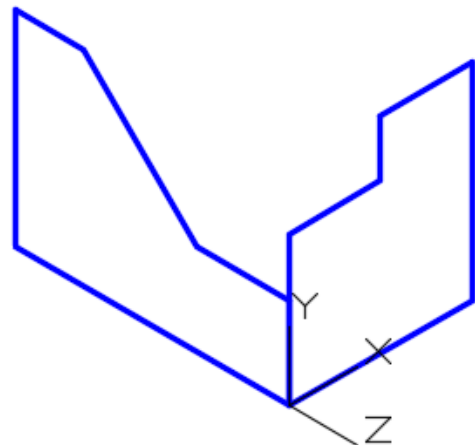

Figure Step 7
Step 7 Set the current UCS to Right and relocate the UCS to the right side as shown in the figure. Using the PLINE command, draw a closed pline of the contour of the right side. (Figure Step 7)